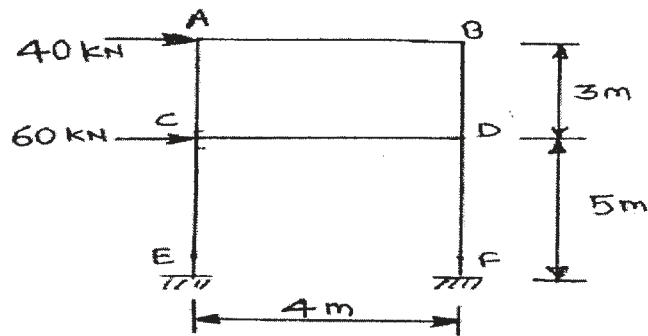

Fig. 12
- b) Determine the approximate values of Bending moment, shear force and axial force in the plane frame loaded as shown in Fig. 12 using cantilever method. Assume same area for all columns and draw B.M.D. [10]